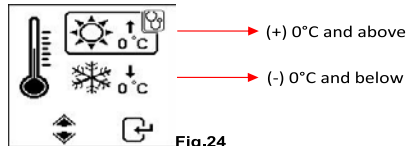

Fig.24
14. The analyser will take surrounding temperature into consideration and prompt for temperature input shown in Fig.24 below when it detected marginal (SOC below 75%) battery condition: